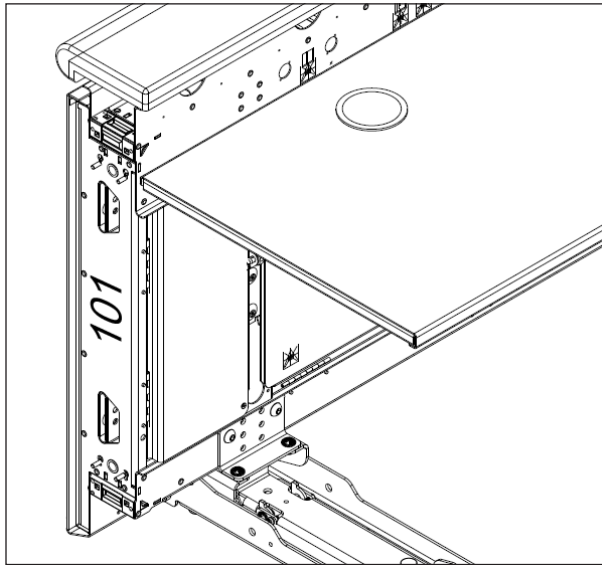

Figure 34: Section Number Label Location
1. Locate the section number on either side of the table. Refer to **Figure 34**. The farthest right table (when viewed from the rear) will typically be labeled "101", then the next table to its left will be "102", and so on.